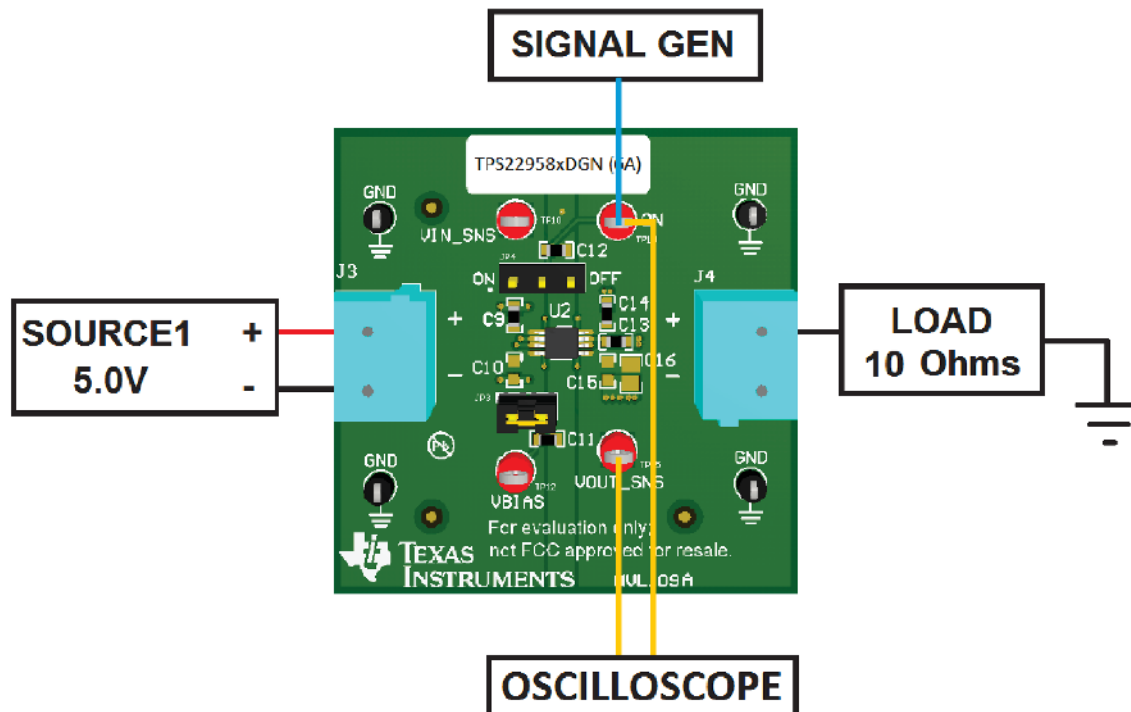

Figure 4. AC Parameter Test Setup
3. Set up the EVM per Figure 4.